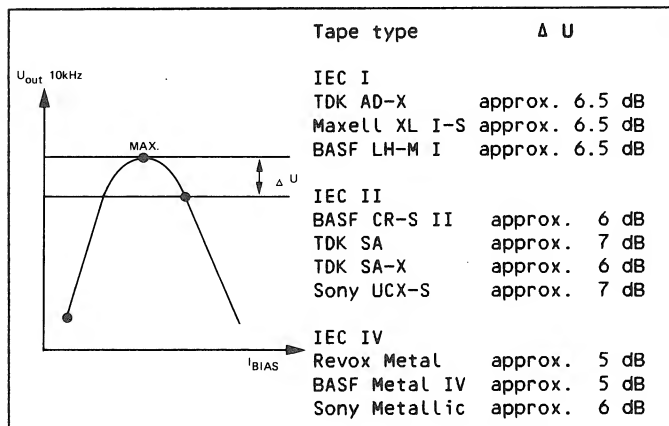

Fig. 5.5
- Turn clockwise past the maximum according to Fig. 5.5